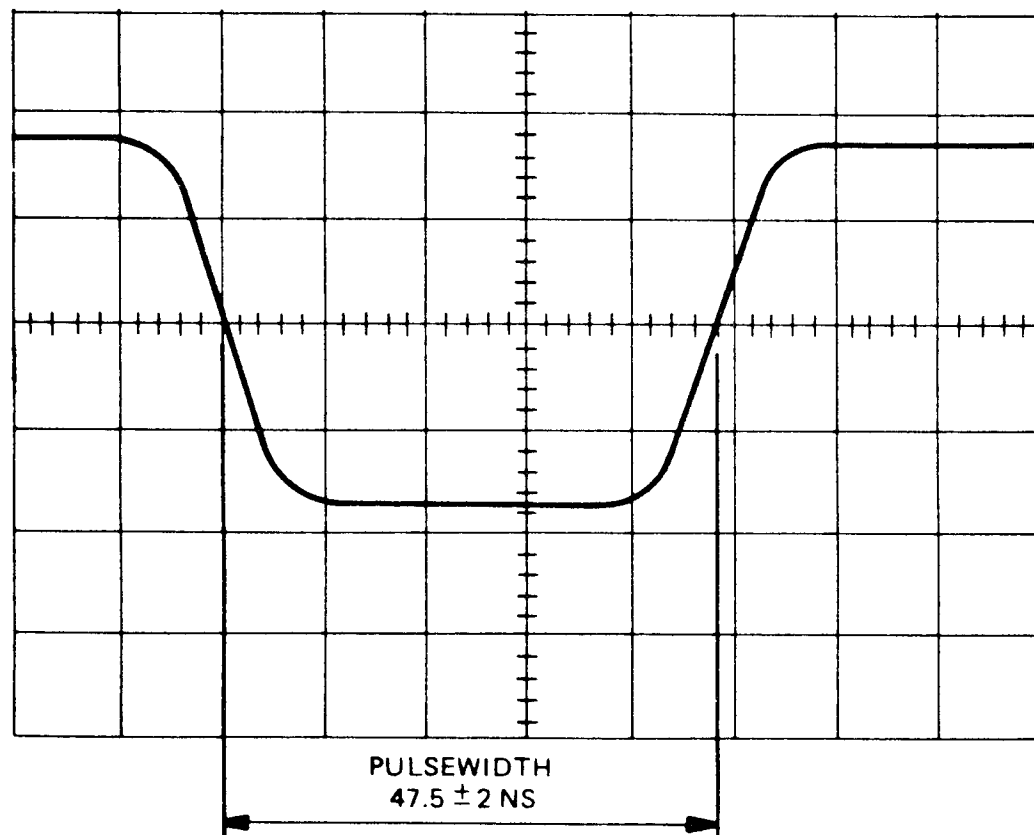

Figure 3-7. Data Window Width
18. Adjust R36 for a data window pulsewidth of 47.5 nanoseconds measured at the midamplitude points (Figure 3-7).